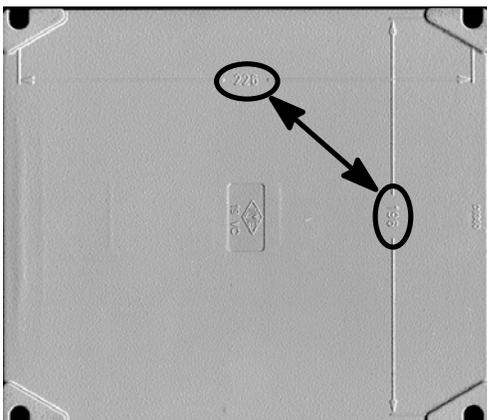

Fig. 10 Bottom View of Junction Box Model 15
Mount the junction box to a flat and firm support and secure using the four notches on the back of the junction box. The notches will accept 6 mm bolts (Fig. 10).
The center to center distances of the mounting holes are marked [226 mm (H) x 196 mm (W)] on the back of the junction box (Model 15). (Fig. 10)